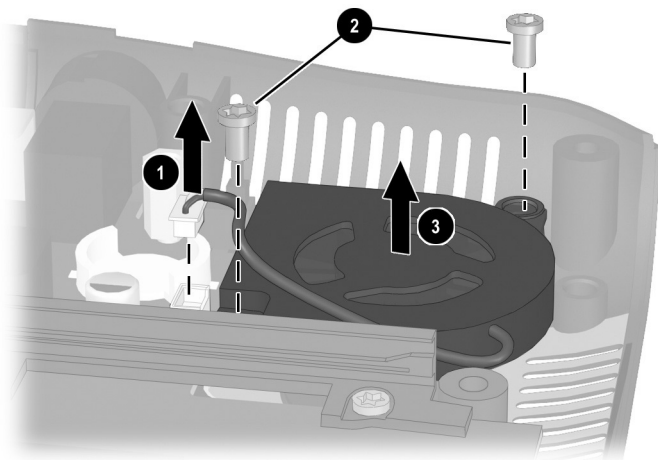

Figure 5-45. Removing the Fan
2. Disconnect the fan cable ❶ from the system board (Figure 5-45).
3. Remove the two silver TM2.0 × 5.0 screws ❷ that secure the fan to the system board.
4. Remove the fan ❸.